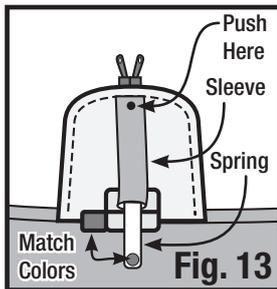

Fig. 13
**NOTE:** The springs are stored in the stake bag. Carefully unroll the springs. The color marking on each spring should match the color "flag" sewn to the window sleeve opening and always face the operator. (Fig. 13)
1. Close window and locate the sleeve in the window panel. Open the hook & loop fastener to insert spring. Close the hook & loop fastener. (Fig. 13)
2. Before opening the window, push in at top of the springs to activate the self-rolling feature. (Fig. 13)
3. Operate both zipper pulls at the same time to open and close the window. (Fig. 13 and 14)